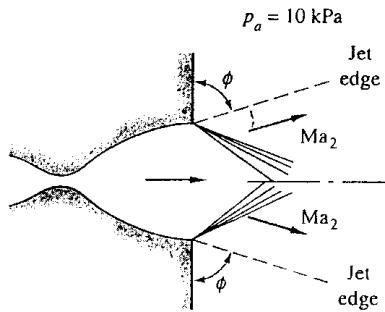

Fig. P9.147
**9.147** A converging-diverging nozzle with a 4:1 exit-area ratio and  $p_0 = 500 \text{ kPa}$  operates in an underexpanded condition (case 1 of Fig. 9.12) as in Fig. P9.147. The receiver pressure is  $p_a = 10 \text{ kPa}$ , which is less than the exit pressure, so that expansion waves